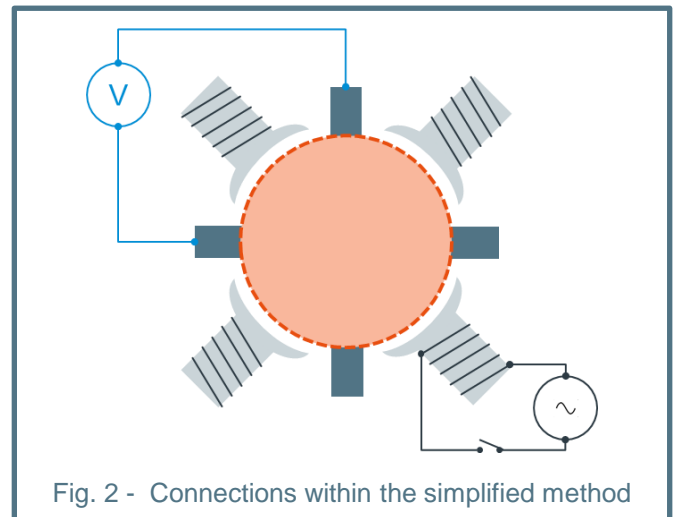

Fig. 2 - Connections within the simplified method
Figure 2 illustrates the connections.
- d) determine the number of bars between poles by dividing the total number of bars of the commutator by the number of poles of the machine and then number all the bars from any point situated to the left of a brush on one arm (beginning by zero - see figures 2 and 4).